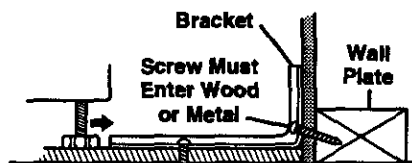

Fig. 2
2. **Wall:** Drill an angled $\frac{1}{8}$ " pilot hole (as shown in Fig. 2) in the center of each pre-marked wall hole position (a nail or awl may be used if a drill is not available).
- B. Mount the **ANTI-TIP** bracket with the 4 screws provided as illustrated in Fig. 2.